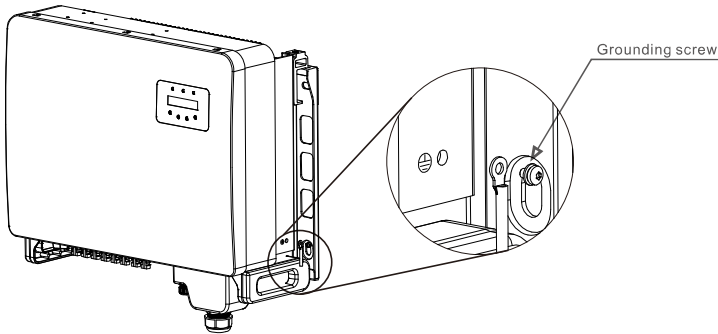

Figure 5.14 Fixed cable
6. Connect the grounding cable to the grounding point on the heat sink, and tighten the grounding screw, Torque is 3-4Nm(see figure 5.14).